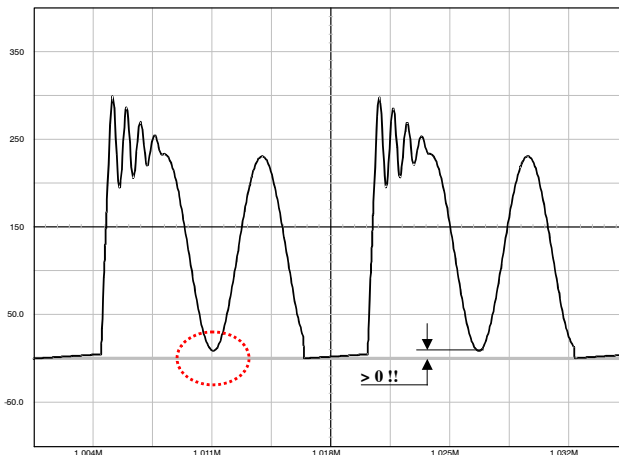

Figure 46. The Drain-source Wave Shall always be Positive
1. The lateral MOSFET body–diode shall never be forward biased, either during start-up (because of a large leakage inductance) or in normal operation as shown in Figure 46. This condition sets the maximum voltage that can be reflected during toff. As a result, the Flyback voltage which is reflected on the drain at the switch opening cannot be larger than the input voltage. When selecting components, you thus must adopt a turn ratio which adheres to the following equation:
Figure 48a: the simple capacitor limits the voltage according to the lateral MOSFET body–diode shall never be forward biased, either during start–up (because of a large leakage inductance) or in normal operation as shown by Figure 46. This condition sets the maximum voltage that can be reflected during t_{off} . As a result, the flyback voltage which is reflected on the drain at the switch opening cannot be larger than the input voltage. When selecting components, you must adopt a turn ratio which adheres to the following Equation 3. This option is only valid for low power applications, e.g. below 5 W, otherwise chances exist to destroy the MOSFET. After evaluating the leakage inductance, you can compute C with (Equation 4). Typical values are between 100 pF and up to 470 pF. Large capacitors increase capacitive losses...